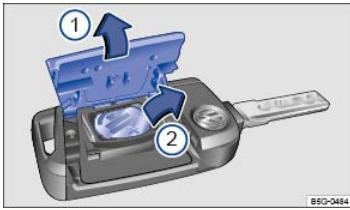

Fig. 52 Remote control vehicle key: Opening the battery compartment cover and removing the old battery.
The battery is in the back of the remote control vehicle key under a cover ⇒ Fig. 52①.
Key to ⇒ Fig. 52 :
- Remove the cover on the back of the remote control vehicle key ⇒ Fig. 52① in the direction of the arrow using a suitable object such as a coin ⇒ ⓘ. This action may require some force.
- Use a thin object to pry the battery out of the battery compartment ⇒ Fig. 52②.